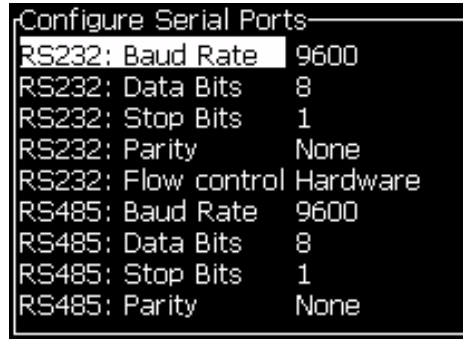

Figure 4-21: *Configure Serial Ports* Dialog Box
- 2 Select *Serial Port Configuration* option, and press the *Enter* key. The *Configure Serial Ports* dialog box appears (see Figure 4-21).